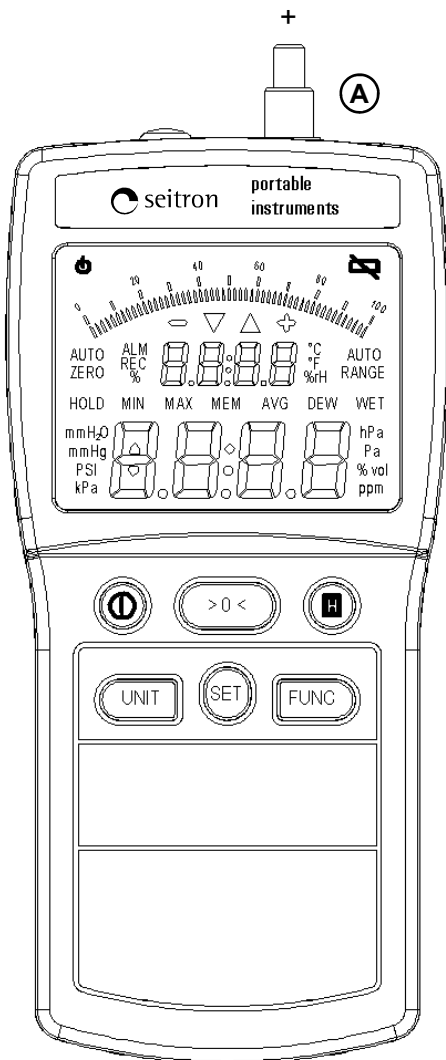

Fig. 1: Front layout.
- Connect the supplied silicone tube to the instrument input (A in Fig. 1).
The '>0<' button zeroes the instrument. During the automatic zero process, the Pressotest 300 samples the input pressure and sets that pressure as reference zero for subsequent measurements. The instrument input (fig. 1) must be left open to atmospheric pressure.